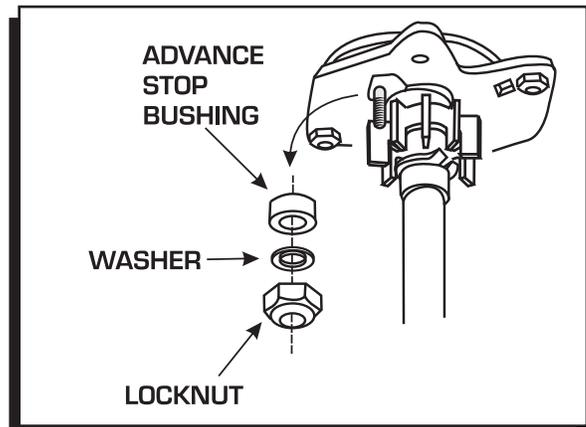

Figure 7 Changing the Advance Stop Bushing.
2. Remove the locknut and washer on the bottom of the advance assembly (Figure 7).